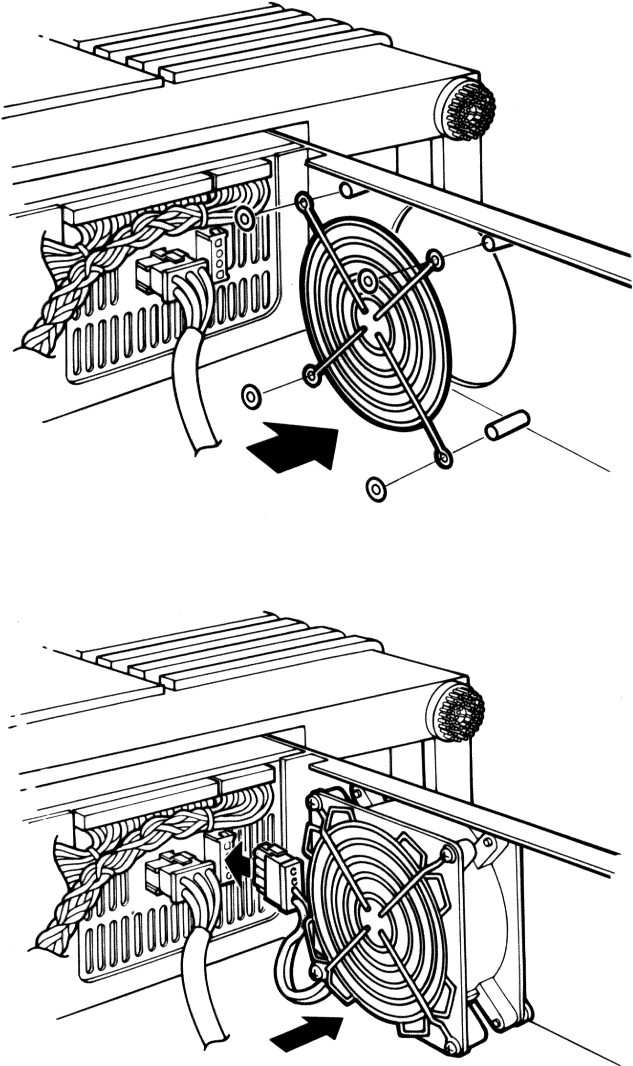

Figure 6-25 Front Fan Replacement
3. Relocate the four screws and place the fan guard on the screws. Make sure the cross members of the fan guard face the inside of the unit. (Figure 6-25)